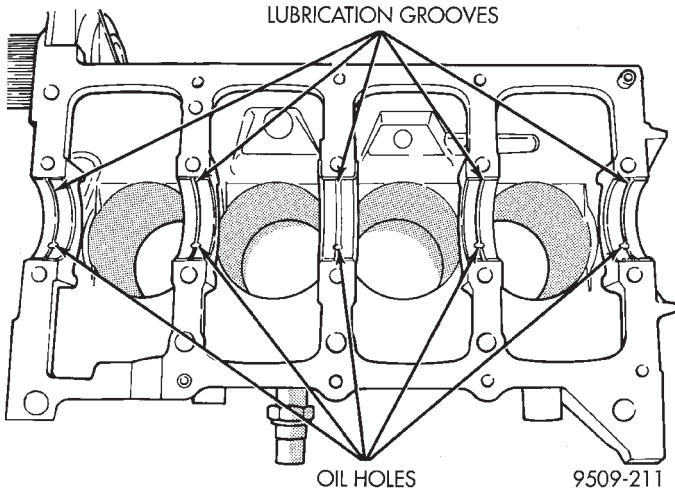

Fig. 82 Installing Main Bearing Upper Shell
(1) Install the main bearing shells with the lubrication groove in the cylinder block (Fig. 82).
(2) Make certain oil holes in block line up with oil hole in bearings and bearing tabs seat in the block tab slots.